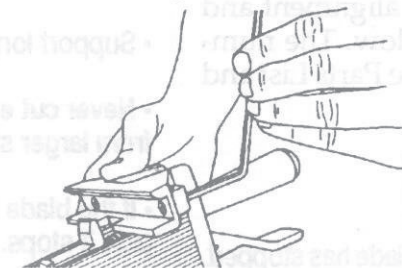

Fig. 9
7. Also use a 5/32" Allen wrench to back out both setscrews (12) located in the fence base, as seen in Fig. 9. The setscrews should be recessed into the fence base just enough so they will not touch the fence bar when the fence is attached.